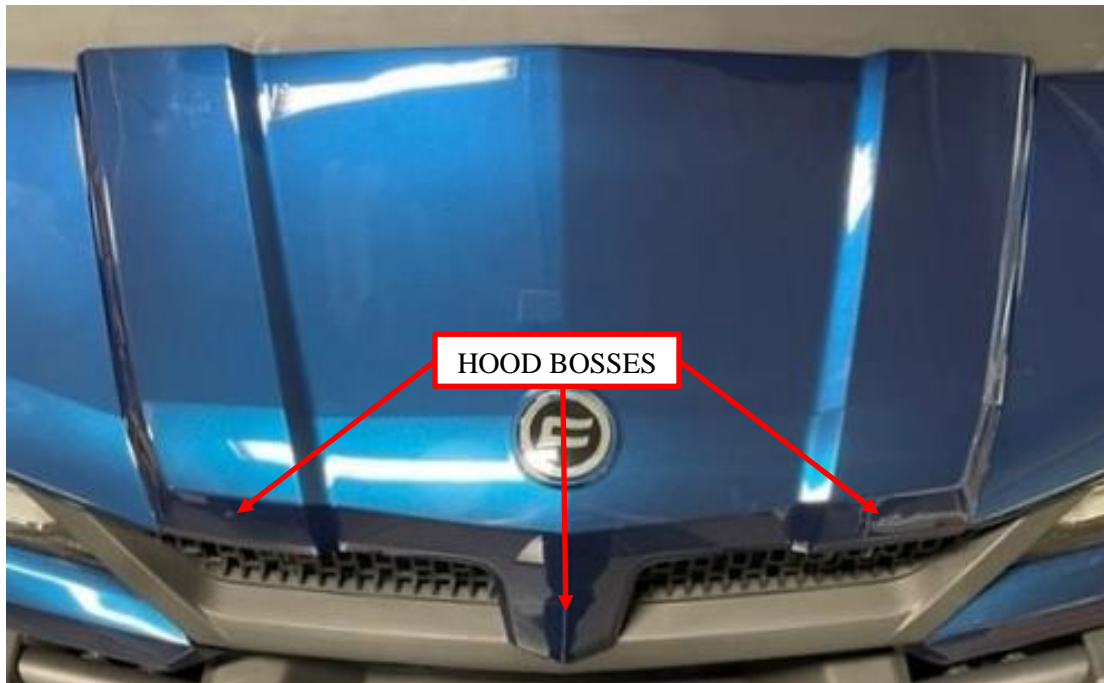

Figure 10: Remove the hood from the vehicle.
9. Remove the hood from the front of the vehicle by gently pulling towards the front of the vehicle to remove the 3 hood bosses and then lifting off the hood. See Figure 10.
18. Reinstall the four screws and hood. See Figure 10, and Figure 11.